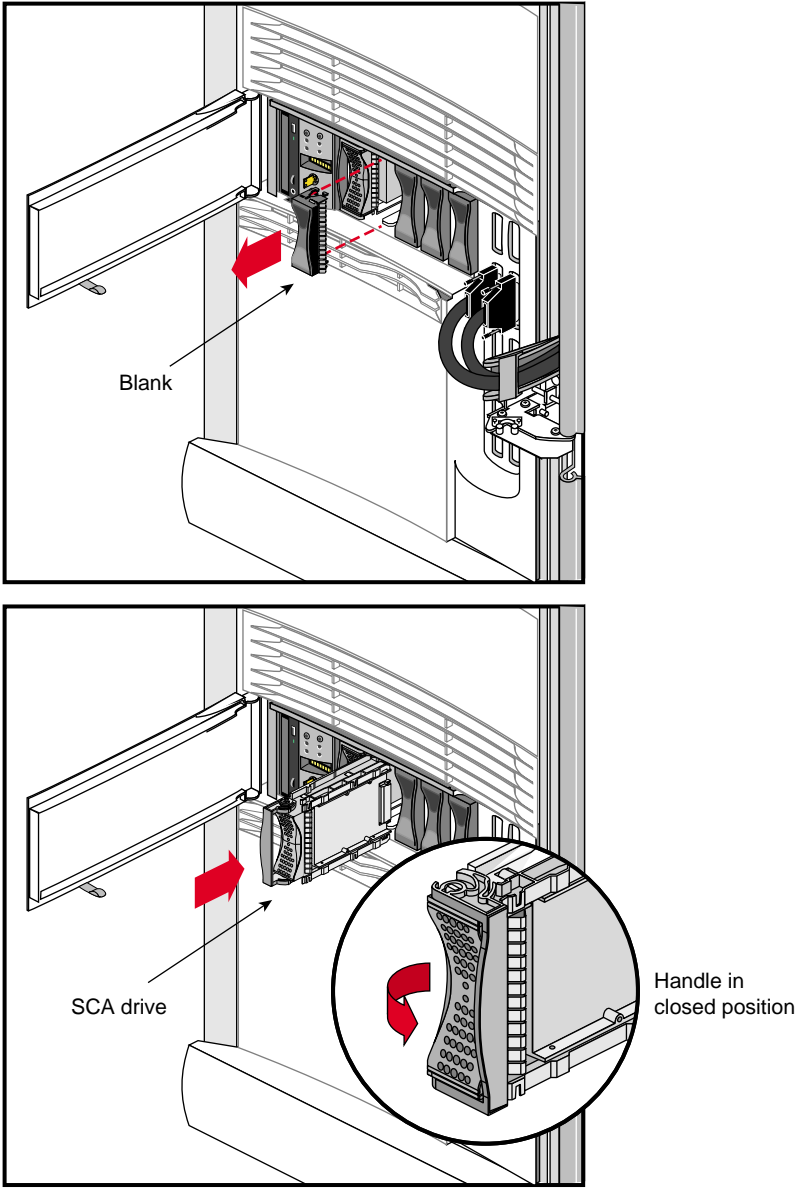

Figure 5-2 Installing an SCA Drive
All SGI 2400 and 2800 rackmount systems are configured with one or two internal SCSI drive bays using single-attachment connector (SCA) drives (see Figure 5-2). These drives must all be single-ended, Ultra SCSI. These Ultra SCSI drives are capable of transmitting up to 40 MB/sec. In addition, the rackmount can house from one to four optional drive box enclosures (Origin Vault) to support other types of drives such as differential or single-ended SCSI drives (see Chapter 2, "Chassis Tour," for additional information).
The SGI 2400 and 2800 use an SCA sled assembly for mounting into the drive bay. Disk drive modules are aligned vertically at the front of the chassis, as shown in Figure 5-2. Note that the leftmost disk drive—the system drive—is oriented differently from the others.
1. If necessary, snap the handle to the open position so that it is centered, as shown in Figure 5-2.
3. Align the new disk module with the drive guide, as shown in Figure 5-2.
5. When the disk module is all the way in, snap the handle right to the closed position, as shown in Figure 5-2. In the case of the system disk module, which is upside down relative to the other drives, snap the handle left.